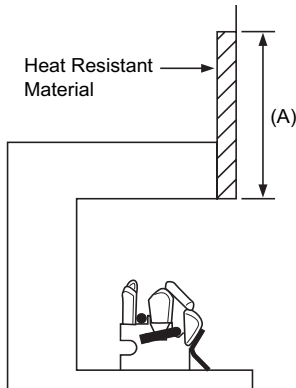
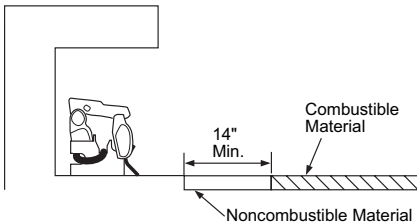

Figure 5 - Heat Resistant Material (Slate, Marble, Tile, etc.) Above Fireplace
Figure 7 - Minimum Fireplace Clearances If Installed at Floor Level
You must have noncombustible material(s) above the fireplace opening. Noncombustible materials (such as slate, marble, tile, etc.) must be at least 1/2" thick. With sheet metal, you must have noncombustible material behind it. Noncombustible material must extend at least 12" up (for all models). See Figure 5 for minimum clearances.
You must have noncombustible material(s) above the fireplace opening. Noncombustible materials (such as slate, marble, tile, etc.) must be at least 1/2" thick. With sheet metal, you must have noncombustible material behind it. Noncombustible material must extend at least 12" up. See Figures 5 and 6 and Figure 7 on page 11 for minimum clearances.
- A. If installing appliance on the floor level, you must maintain the minimum distance of 14" to combustibles (see Figure 7).